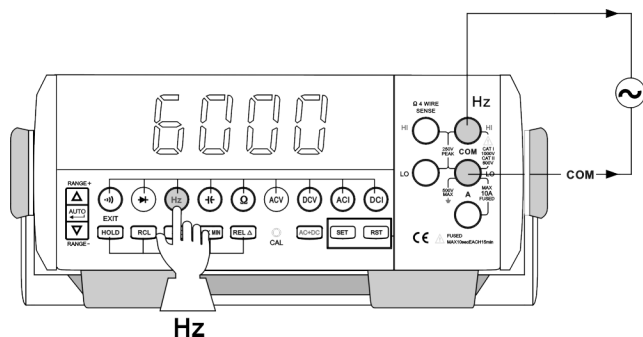

Figure 14
8. Frequency Measurement (See Figure 14)